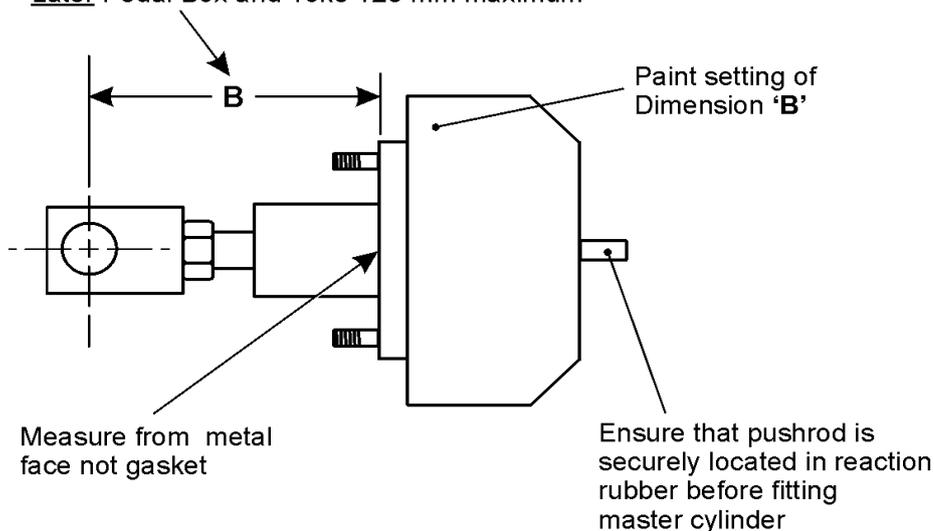

Figure 141 Servo Cylinder Input Rod Length
- l. Measure and set the input rod length to the required dimensions (Figure 141). Tighten the yoke locknut.